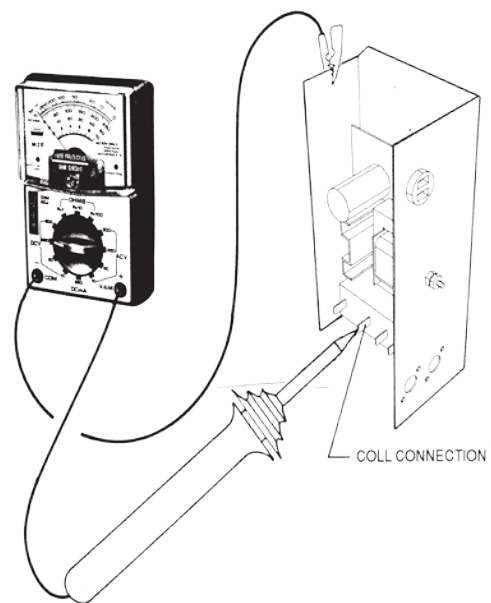

Figure 4-12-2
- b) Collector Voltage Test - Test the voltage from the “COLL” Connection point to ground (Refer to Figure 4-12-2). If there is voltage do not proceed. Refer to the Troubleshooting Section of this manual.